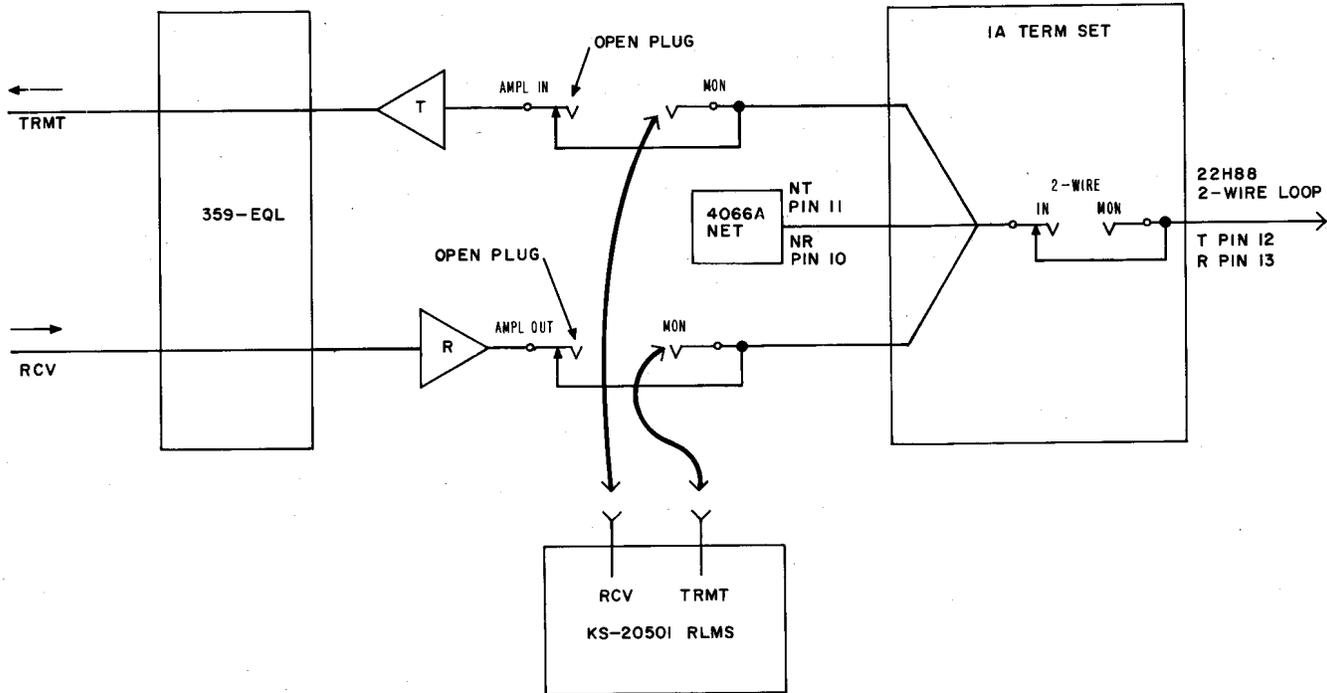

Fig. 6—Test Arrangement for Measuring Return Loss
- 1 Connect the KS-20501 return loss measuring set (RLMS) to the circuit as shown in Fig. 6. The station to be measured should be on-hook.